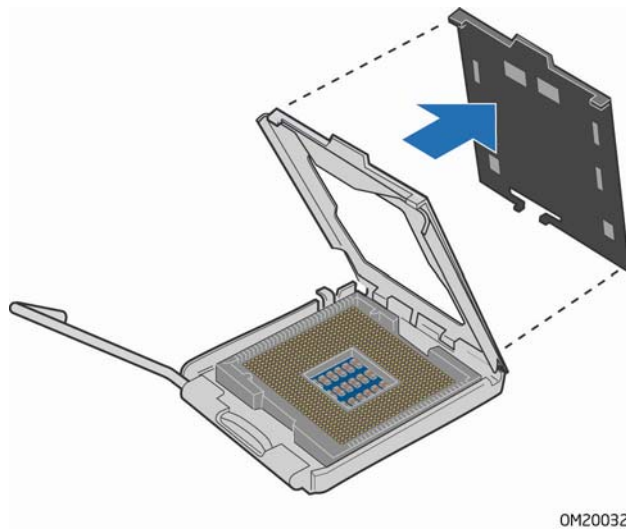

Figure 8. Remove the Protective Socket Cover
4. Remove the plastic protective socket cover from the load plate (Figure 8). Do not discard the protective socket cover. Always replace the socket cover if the processor is removed from the socket.